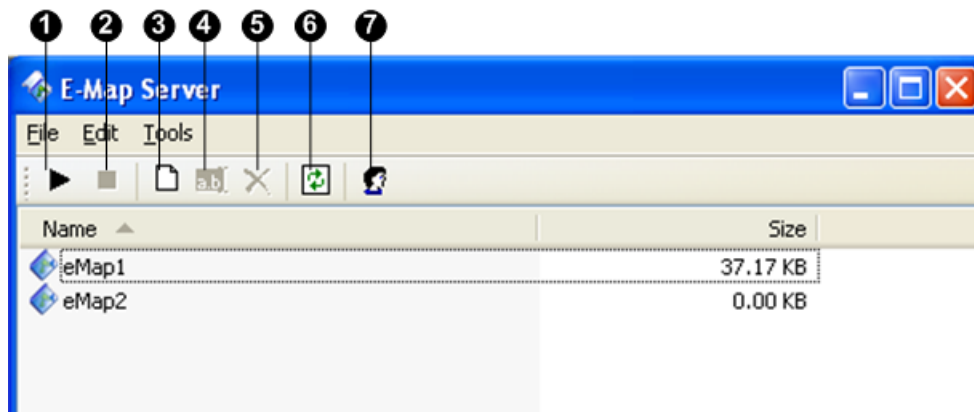

Figure 9-16
1. Click the **New** button (No.3, Figure 9-16) to create e-map(s). For details on creating an e-map file, see *Creating an E-Map File* earlier in this chapter.
2. Click the **Accounts** (No. 7, Figure 9-16) button to create a user account for the server.